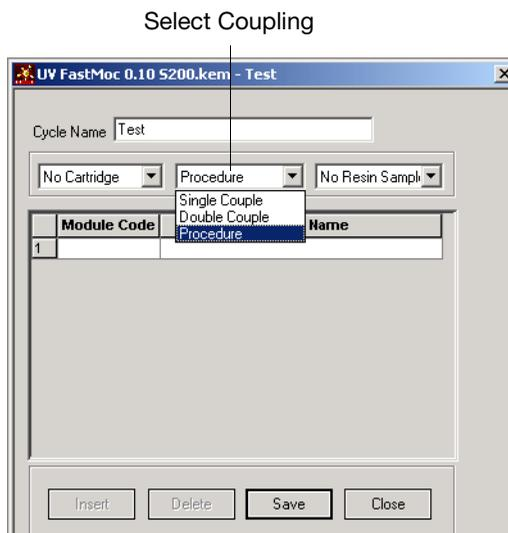

Figure 7-16 Selecting Coupling
4. Click the **Procedure** drop-down list box, then make the appropriate selection, for example, Single Couple (Figure 7-16).